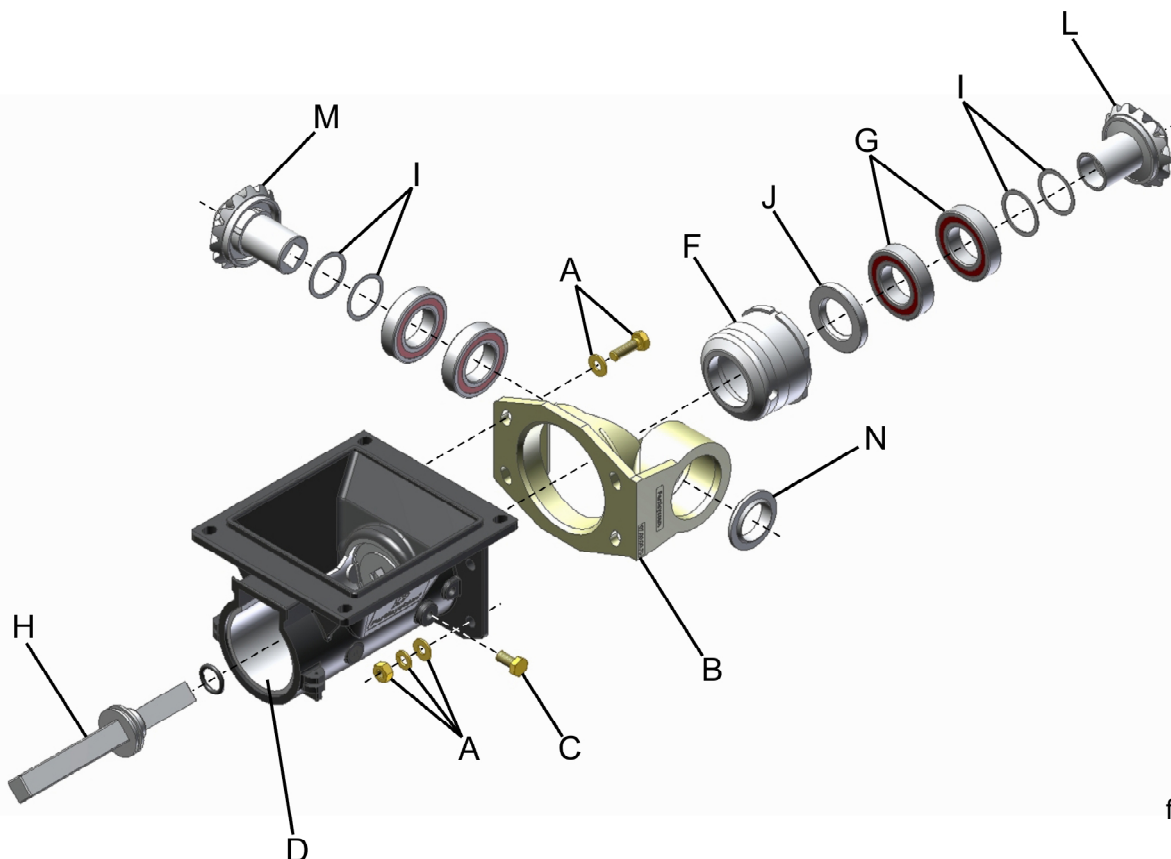

fig. 33
- 2** - Remove the four screws and nuts (A) (fig. 33) of support bearing of transmission pinions (B);
- 3** - Loosen and remove the fixing bolts (C) the coating (D), by removing it from the set;
- 4** - Remove the bearing bushing (F) and the bearings (G). Remove the drive axle (H) and remove the bearing bushings of bearings and retainer (J) making the cleanings or replacements necessary;
- 5** - Remove the protection ring (N).